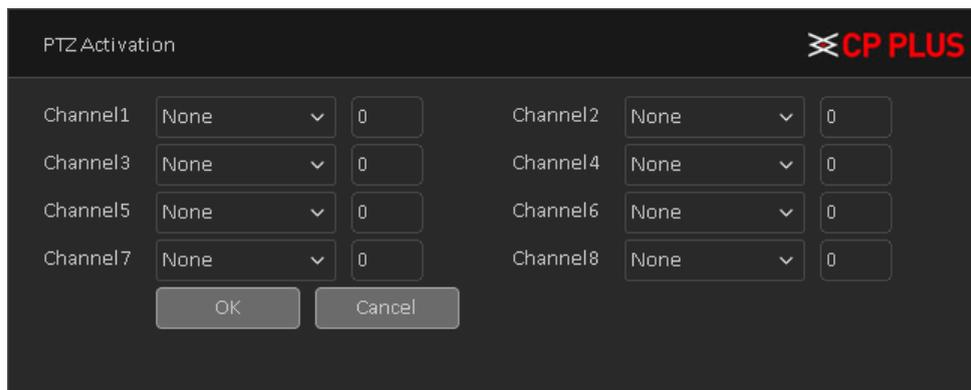

Figure 4.14
- ✓ **[PTZ Activation]** Here user can set PTZ movement when an alarm occurs. Such as go to preset, tour & pattern when there is an alarm. Click "Setup" button, user can see an interface is shown as in Figure 4.14.